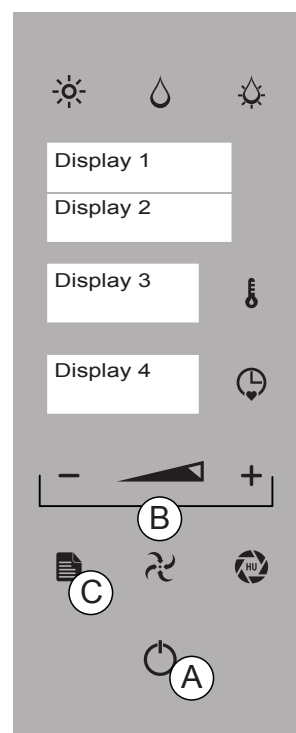

Fig.3
Press "ENTER" (Fig 3/A) and "MENU" (Fig 3/C) to activate the main menu. Use the "MINUS" and "PLUS" keys (Fig 3/B) to select the WASH function. Press "ENTER" (Fig 3/A) to confirm.
The "MINUS" and "PLUS" keys (Fig 3/B - Display 2) can be used to select the following washing cycles: **FAST - ONLY RINSING - SHORT - MEDIUM - LONG** Press "ENTER" (Fig 3/A) to start the cycle.
**Before DETERGENT input (Fig 3 - Display 2 - SOFTENING)**
Press ENTER key (Fig 3/A) To continue washing press "ENTER" (Fig 3/A).
To exit the function press "MENU" (Fig 3/C).
**After you added the detergent (Fig. 3- Display 2-DETERGENT + WATER)**
Press ENTER key (Fig 3/A)
Possible actions: press the "enter" key to resume the interrupted wash or choose another type of washing using the MINUTES and PLUS keys (Fig. 3/B). Press "ENTER" (Fig 3/A) to start a new wash cycle.